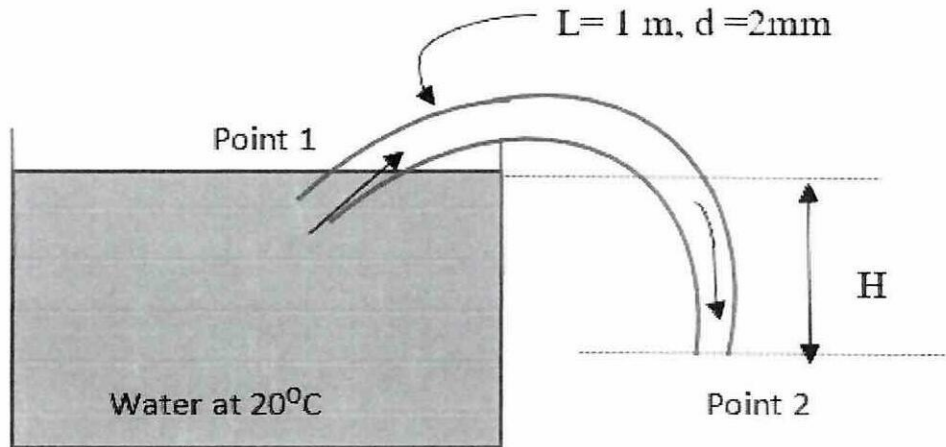

FIGURE Q3(d)
- (a) List **FIVE (5)** differences between turbulent and laminar flow. (4 marks)
- (d) Water is to be syphoned through a tube of 1 m long and 2 mm in diameter, as in **Figure Q3 (d)**. Given that density, $\rho = 998 \text{ kg/m}^3$ and dynamic viscosity, $\mu = 0.001 \text{ kg/ms}$.
- (a) Describe **TWO (2)** similarities between a model and its prototype. (4 marks)
- (d) Express dimensionless equation for pressure drop (Δp) by a pump of a given geometry is known to depend upon the impeller diameter (D), rotational speed (N), flow rate (Q), density (ρ) and dynamic viscosity (μ). Repeating variables are density ρ , impeller diameter, D and rotational speed, N . Refer **TABLE Q4 (d)** for dimensionless parameter. (10 marks)